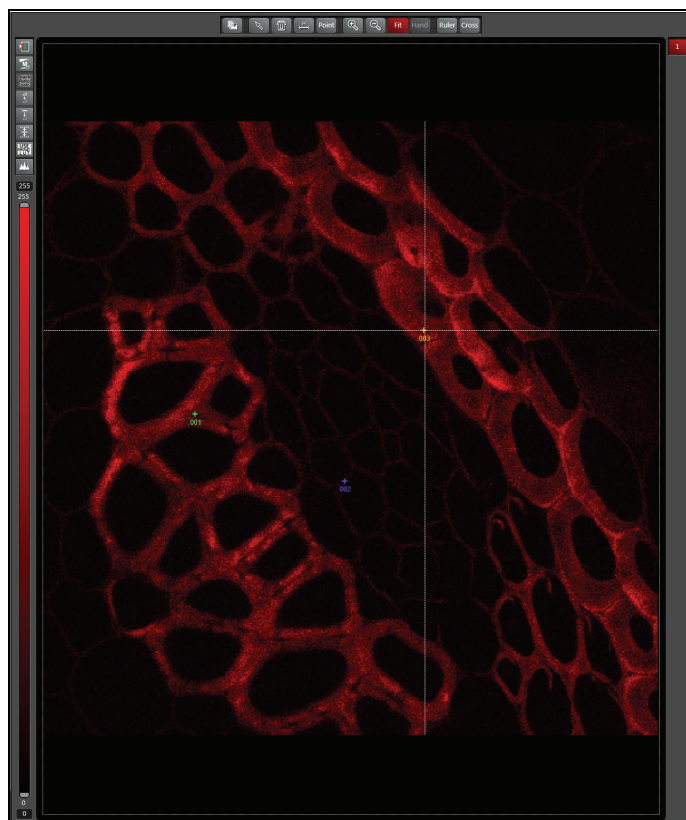
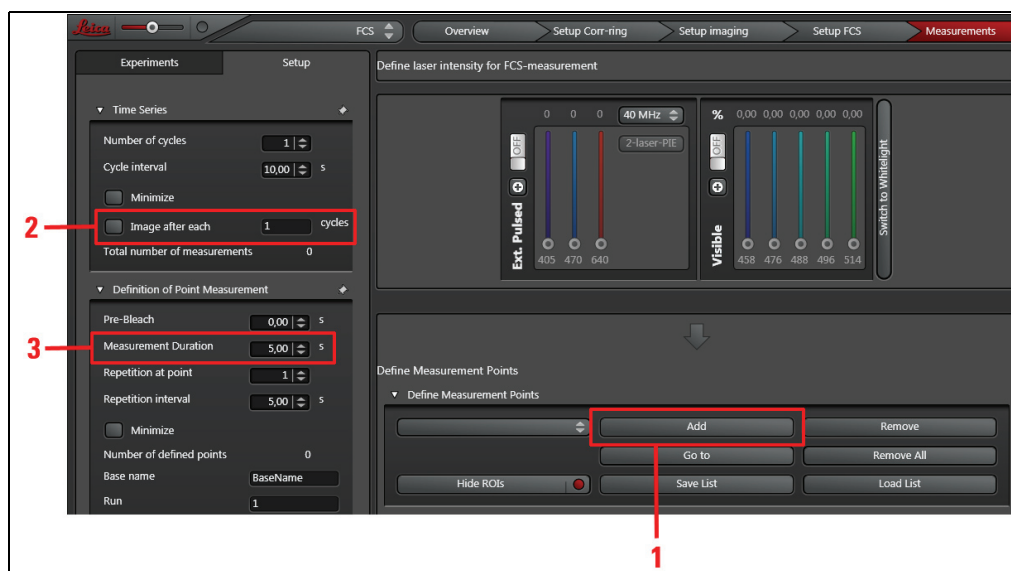

Figure 158: Testing the accuracy of the FCS measuring points – Setting the bleach points
Figure 159: Adding a bleach point and bleaching period
6. Select the **Measurements** step in the FCS Wizard (**Figure 158**).
8. Select the initial bleach point in the xy image by clicking a point in the image display (Figure 158). Click the **Add** button (Figure 159, item 1).
Setup tab and enter **1** (**Figure 159, item 2**). This will automatically take a new image after photobleaching all points.
12. Under **Measurement Duration**, enter a suitable bleaching period; this will typically be a few seconds (**Figure 159, item 3**).